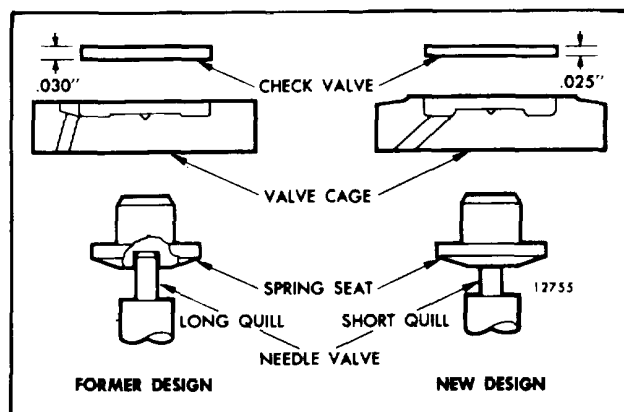

Fig. 38 Comparison of Former and New Design Injector Parts
**CAUTION:** The former and new check valve and check valve cage are not separately interchangeable in a former injector (Fig. 38).
**CAUTION:** Install a new spring seat (Fig. 38) in a former injector if a new design spray tip assembly is used.